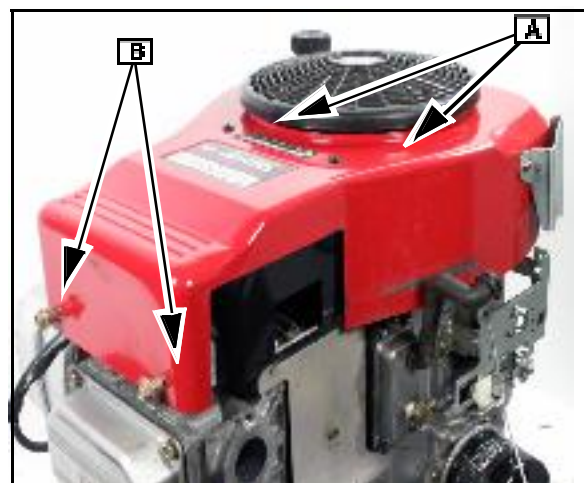

Fig. 7
1. Set multimeter to 300mv. See Figure 7.
4. Remove the two screws (A) that secure the top of the outer housing to the inner housing.
5. Remove the remaining screws ([B] Fig. 7) around the perimeter of the outer blower housing.